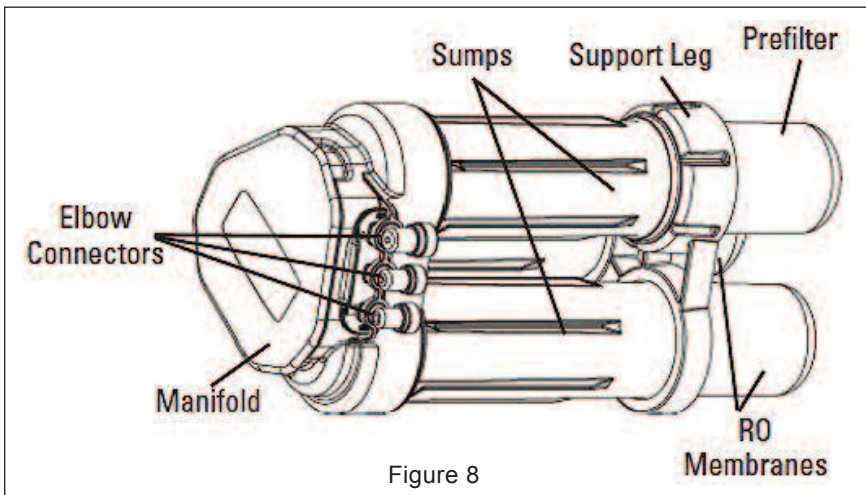

Figure 8
The RO Assembly includes the following components: sumps (3), support leg, prefilter, RO membrane elements (2), and postfilter. The tubing is attached to the manifold by the elbow connectors. When choosing a location for the system, allow enough tubing for it to be moved for periodic servicing of the filters and membrane elements (Figure 8 RO Assembly).